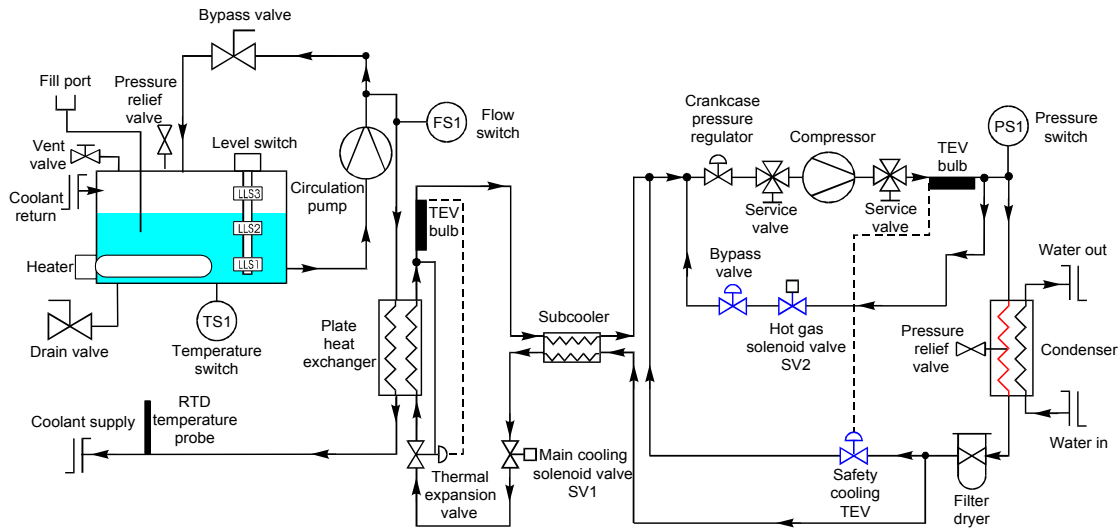

Figure 3 - Refrigeration and Coolant Circuits
* See Figure 3 on page 10
4.2 Refrigeration - (See figure 3 above)